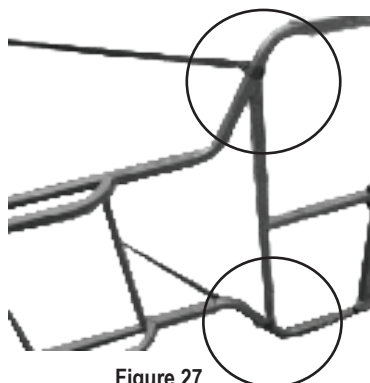

Figure 27
STEP 2: Locate the two (2) stabilizing straps as shown in Figure 15. NOTE: There is a sewn-in loop on one end. Slip the loop end around the ladder adapters as shown in Figure 27. REPEAT for both stabilizing straps as shown in Figure 27.